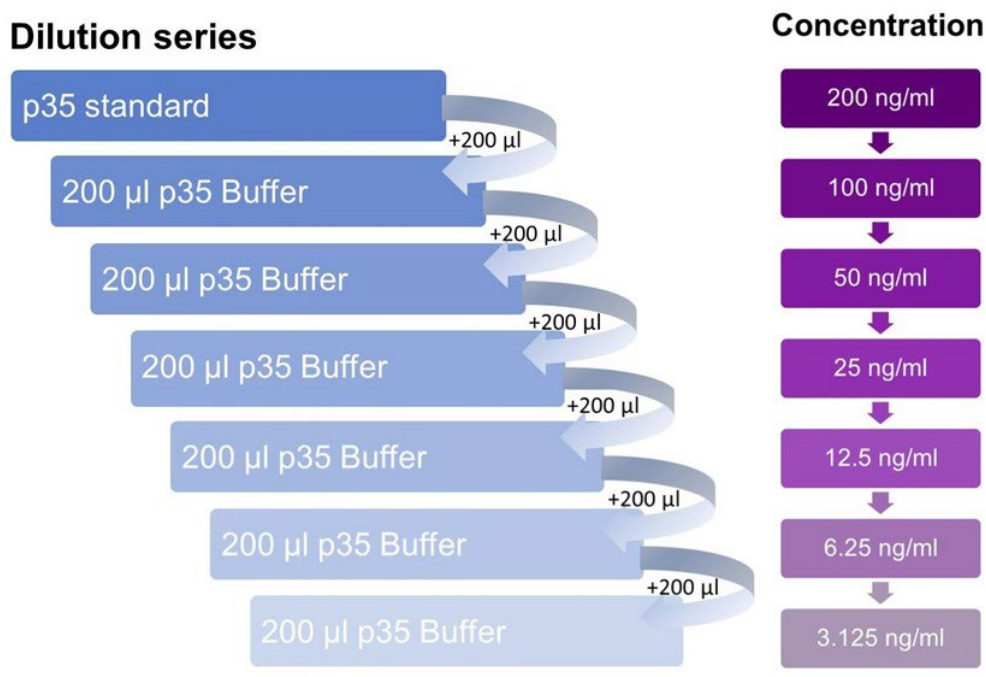

Figure 3. Preparing the p35 curve serial dilutions.
6. Repeat Step 5 six times, pipetting 200 μ l from the 200, 100, 50, 25, 12.5, and 6.25 ng/ml dilutions respectively into the tube for the next step in the series, for each subsequent dilution (Figure 3).